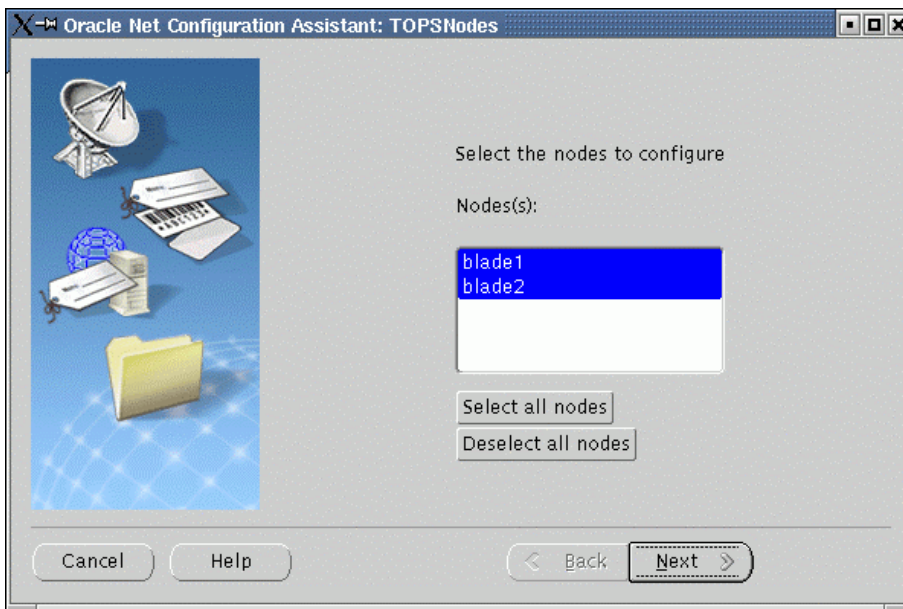

Figure 68. netca – node selection
2. The screen shown Figure 68 displays, asking for node selection. Click **Select all nodes**, then **Next** to continue.